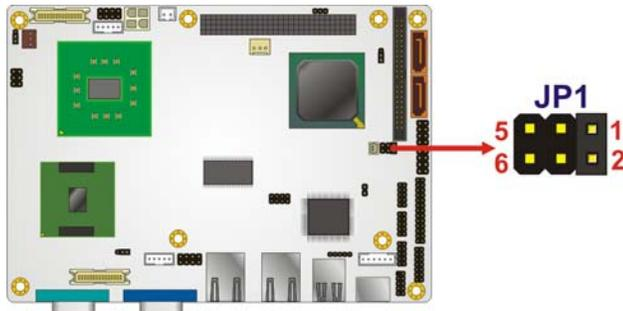

Figure 4-19: COM 2 Function Select Jumper Location
- Jumper Location:** See Figure 4-19
The COM 2 Function Select jumper location is shown in **Figure 4-19**.